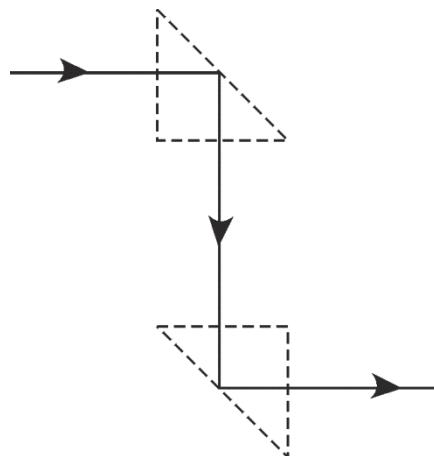

Figure 31 – Total Internal Reflection Set-up
3. Move two right-angle prisms to a new location on the paper. Arrange them to produce “periscope action.” This action requires, for example, that a horizontal beam that enters at one level be deflected downward 90° and exits horizontally at a different level, as shown in Figures 31 and 32. Here the dashed triangles indicate the locations of the two prisms. Use index cards to locate the beam through the prism arrangement.